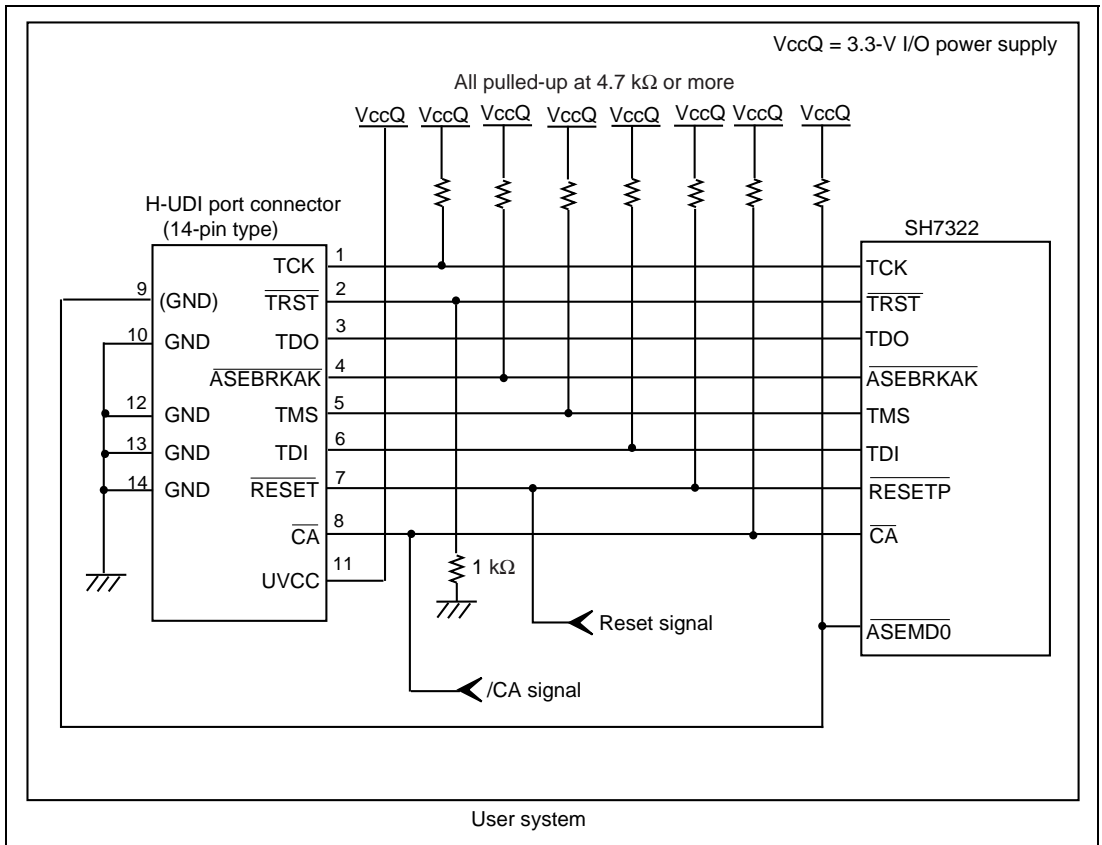
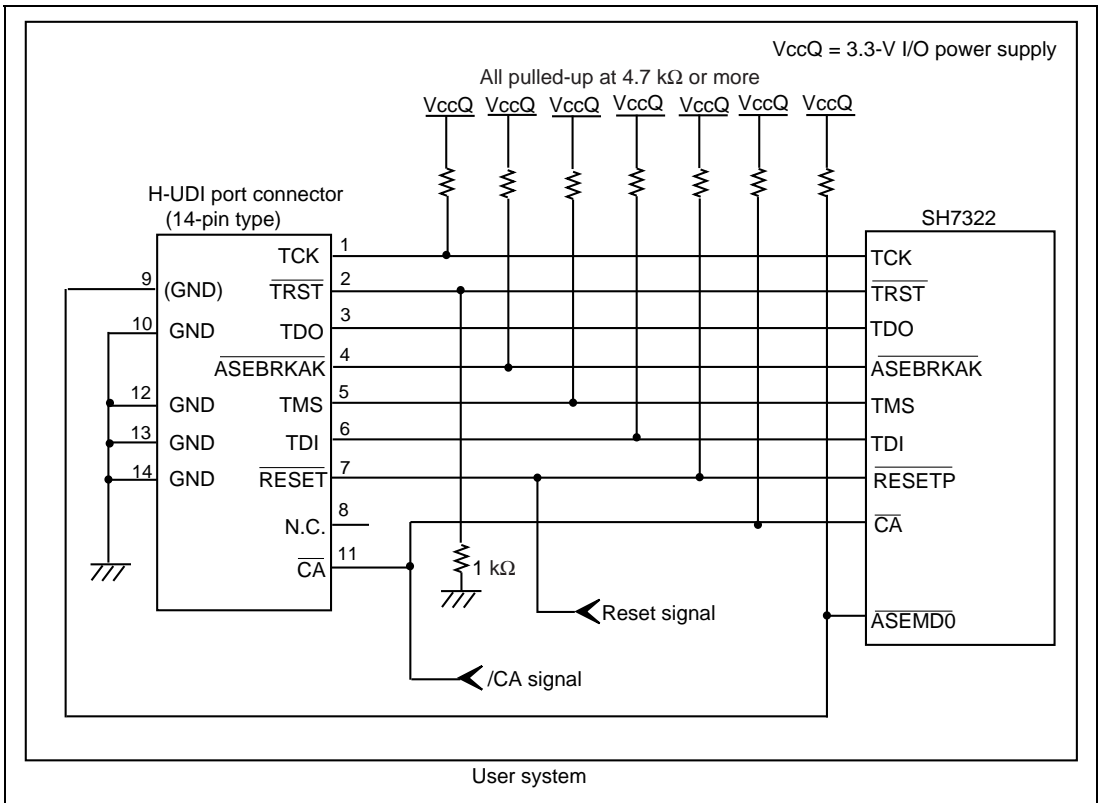

Figure 1.5 Recommended Circuit for Connection between the H-UDI Port Connector and MPU when the Emulator is in Use (14-Pin Type UVCC Connected)
Figure 1.6 Recommended Circuit for Connection between the H-UDI Port Connector and MPU when the Emulator is in Use (14-Pin Type UVCC Not Connected*)
Figure 1.5 shows a recommended circuit for connection between the H-UDI and AUD port connectors (14 pins) and the MPU when the emulator is in use. Figure 1.6 shows a circuit for connection when UVCC is not connected.
- (1) When the emulator is used: $\text{/ASEMD0} = 0$ (ASE mode)
- (2) When the emulator is not used: $\text{/ASEMD0} = 1$ (normal mode)Figures 1.5 and 1.6 show examples of circuits that allow the /ASEMD0 pin to be GND (0) whenever the emulator is connected by using the user system interface cable. When the /ASEMD0 pin is changed by switches, etc., ground pin 9. Do not connect this pin to the /ASEMD0 pin.
8. When the power supply of the user system is turned off, supplying VccQ of the user system to the UVCC pin reduces the leakage current from the emulator to the user system. A level shifter that is activated by the internal power supply or user power supply (changed by the switch) is installed in the interface circuit of the emulator. If the user power is supplied to the UVCC pin, the level shifter is not activated as long as no user power is supplied. When the power supply of the user system is turned off, no current flows from the user interface. The I/O voltage level of the user system interface can be the same as that of the VccQ . To operate the emulator with low voltage (lower than 3.3 V), the VccQ must be supplied to the UVCC pin. Make the emulator's switch settings so that the VccQ will be supplied ($\text{SW2} = 1$ and $\text{SW3} = 1$). With these settings, pin 11 is used as the UVCC pin. The /CA pin must be connected to pin 8 (as shown in figure 1.5).
Thus the I/O voltage level of the user system interface will be fixed to 3.3 V. Pin 8 must be N.C (open), as shown in figure 1.6.
When the circuit is connected as shown in figure 1.5, the switches of the emulator are set as SW2 = 1 and SW3 = 1. For details, refer to section 3.8, Setting the DIP Switches, in the Debugger Part of the SuperH™ Family E10A-USB Emulator User's Manual.
When the circuit is connected as shown in figure 1.6, the switches of the emulator are set as SW2 = 0 and SW3 = 0. For details, refer to section 3.8, Setting the DIP Switches, in the Debugger Part of the SuperH™ Family E10A-USB Emulator User's Manual.